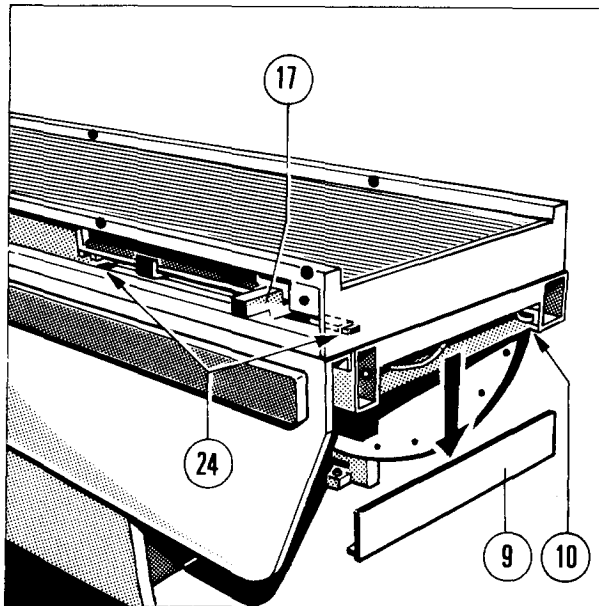
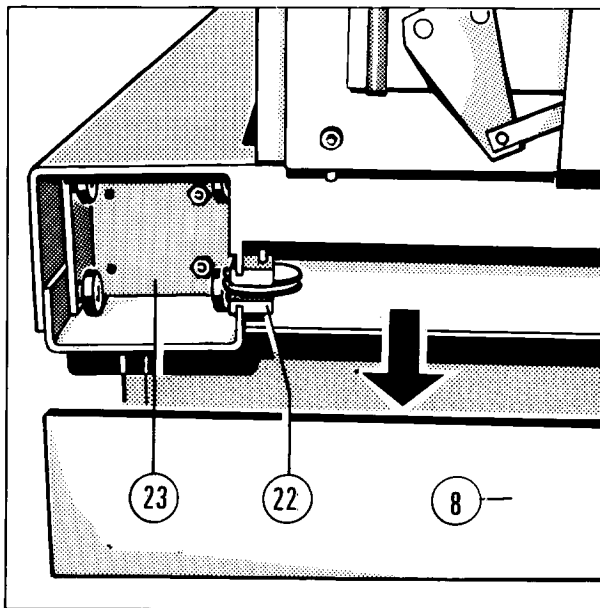
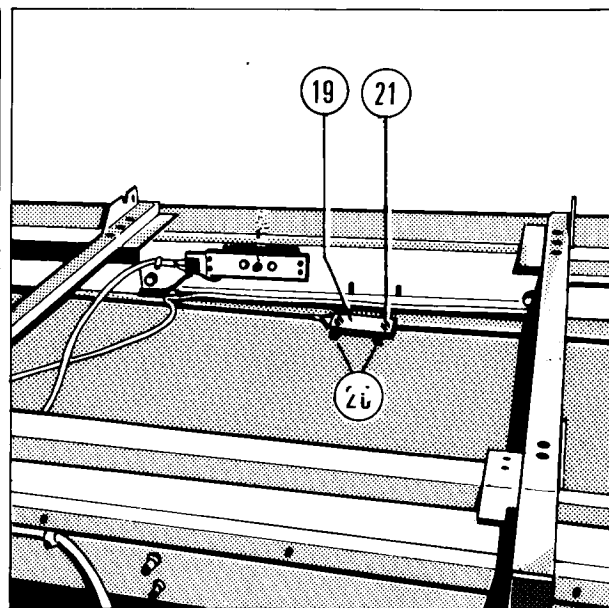
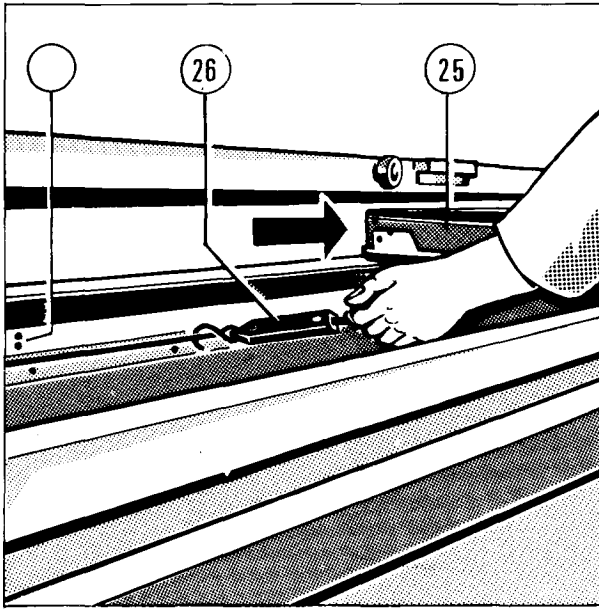

Fig. 3
Fig. 5
Fig. 6
Fig. 7
The unit has been prepared according to the order. The installation material required is included with the shipment. Remove the cover plate (Fig. 3/item 9) and the shipping screw (item 10) at the foot end side of the unit and cover plate (Fig. 5/item 8) at the head end side. Also remove the washer between table frame and mounting bracket. Move the Bucky carriage to the middle of the table.
Put the unit in vertical position and determine counterweight difference with a spring scale. Then bring unit into horizontal position. Disconnect the wire rope connector (Fig. 6/item 19) located underneath the Bucky carriage in downward direction after loosening the screws (item 20). Loosen clamping stud (Fig. 6/item 21) and remove the wire rope. Pull out at head end side in upward direction the return pulley (Fig. 5/item 22) with pedestal. Remove the counterweight (Fig. 5/item 23) and put it on a suitable place. Add or remove weight plates to compensate the weight difference determined with the spring scale. Reinsert counterweight and install return pulley (item 22) with pedestal. Establish wire rope connection and tighten with clamping stud (item 21).
Check the wire rope for proper tension. Therefore move the Bucky carriage all the way to the foot end position. Refer to (Fig. 7/item 25). Hook up spring scale (item 26) in the middle of the visible length of the wire rope. Maximum deflection of 8cm when applying a force of 3 kg. Readjust if necessary. Therefore loosen screws (Fig. 6/item 20) and unhook the wire rope connector (item 19). Adjust the wire rope tension by opening the clamping stud and pull thru the wire rope as necessary. Tighten clamping stud and remount the wire rope connector.